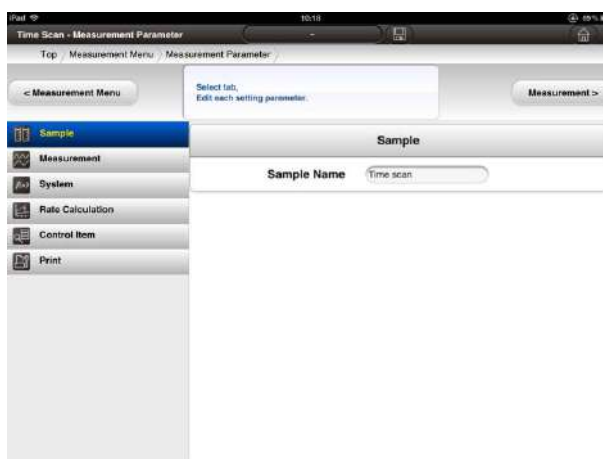

Fig. 4-143 Sample Conditions Window
- (1) Press  [Sample tab] to set sample conditions.
- (2) The sample conditions window (Fig. 4-143) will be shown.